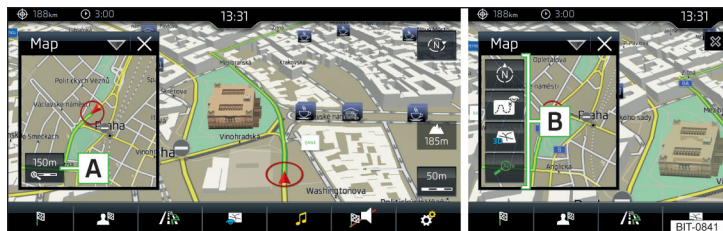

Fig. 243 Map in split screen
► In the split screen, tap on function surface **A** » Fig. 243.